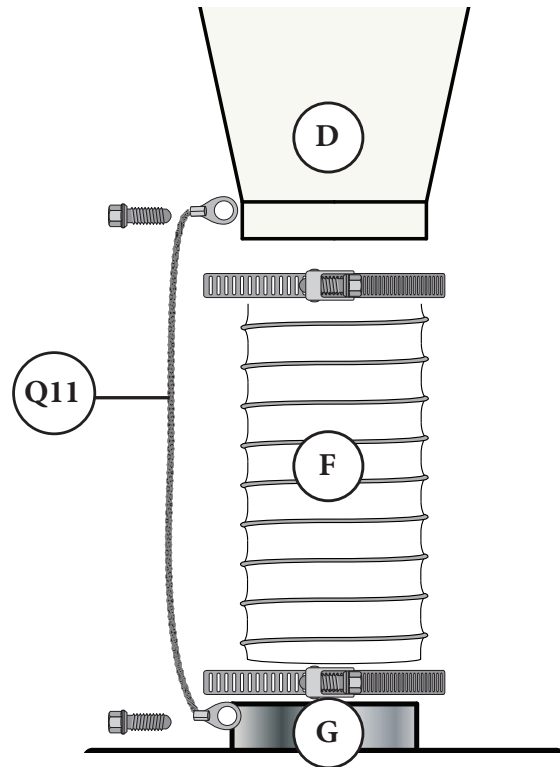

FIG. 18
Statically ground the Drum (H) by attaching the 14" Grounding Cable (Q11); Drive the 3/8" Self-Tapping Screw through its eyelet and into the bottom of the Cone (D) just above the installed Flex Hose (F). Repeat using the second 3/8" Self-Tapping Screw on the Lid's Collared Inlet (G) [FIG. 18].